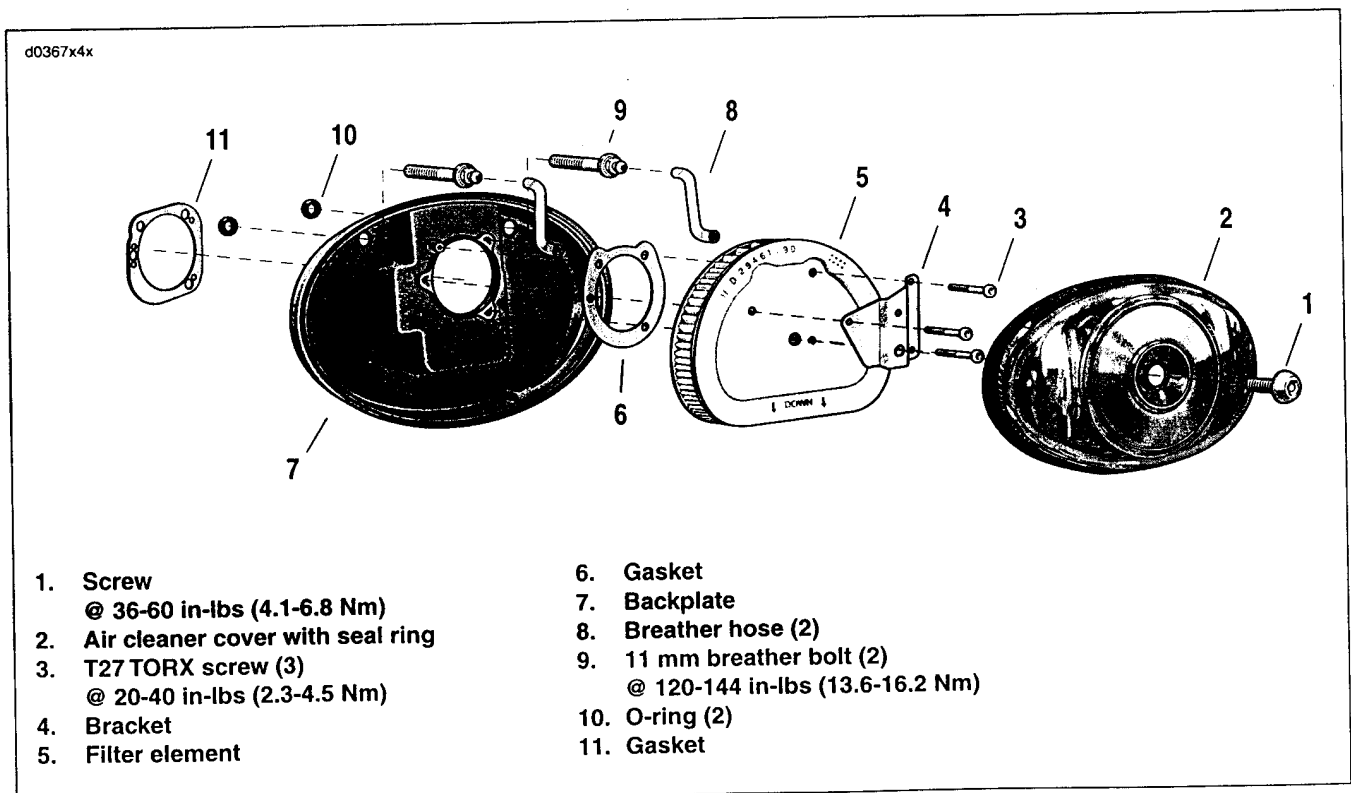

Figure 4-14. Air Cleaner Assembly
1. See Figure 4-14. Remove screw (1) and air cleaner cover (2).
2. Remove three TORX screws (3) and bracket (4) from filter element (5).
3. Gently pull both rubber breather tubes (8) from the back of the element. Remove filter element and gasket (6).
5. Gently pull breather tubes (8) from breather bolts (9) on the backplate.
7. Inspect seal ring on cover (2) for cracks or tears. Verify that it seals tightly to backplate. Replace as required.
8. Alternately back out both breather bolts (9) (metric) a few turns a time while pulling backplate (7) away from carburetor.
9. Continue previous step until breather bolts are clear. Remove backplate (7), O-rings (10) and gasket (11). Discard gasket. On California models, disconnect clean air hose from backplate.
10. Wipe inside of air cleaner cover (2) and backplate (7) with damp cloth to remove dust.
1. See Figure 4-14. Position new gasket (11) and two new O-rings (10) on backplate.
3. Insert two breather bolts (9) (metric) into backplate. Thread bolts loosely into each cylinder head. Tighten bolts to 120-144 in-lbs (13.6-16.2 Nm).
4. Insert two breather tubes (8) into the holes in back of the filter element. Place the element back into position and attach breather tubes to breather bolts.
5. Install air filter element (5) and bracket (4).
- a. Make sure gasket (6) holes are aligned with backplate holes.
- b. Use three TORX screws (3) to secure bracket and filter element. Tighten to 20-40 in-lbs (2.3-4.5 Nm).
6. Install air filter cover (2).
- a. Apply a drop of LOCTITE THREADLOCKER 243 (blue) to threads of air cleaner cover screw (1).